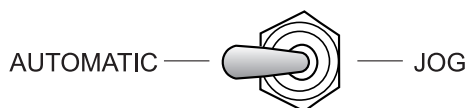

Figure 21. Cylinder Stroke Control Switch (Automatic)
2. Place the **cylinder stroke control switch** in the **AUTOMATIC** position (Figure 21).